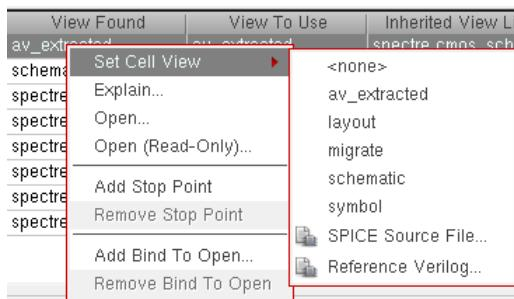

Figure 6.10: Changing the view of Inverter cell
- Right click on the Inverter cell and change the View Found to av_extracted, as shown in Fig.6.10.